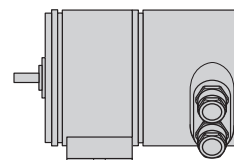

Fig. 2
**Transmitter with additional gear** (Fig. 2)